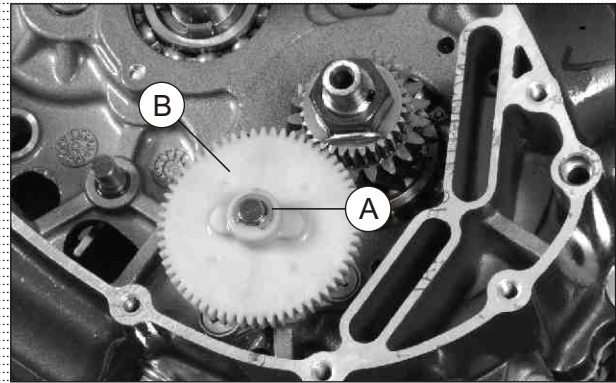

Fig. 4.41
- The pump assembly oil is mounted in the crankcase R, just below the gear primary drive. (Fig. 4.41)
- Remove E-ring (A) and pull out gear oil pump driven (B). (Fig. 4.41)